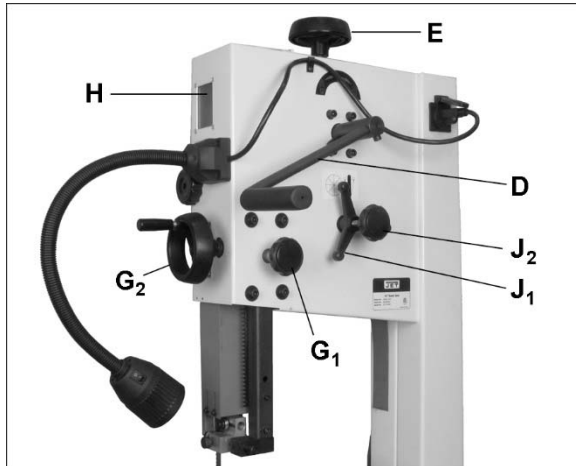

Figure 7-5
4. Raise quick tension lever (see D, Figure 7-5) to release position. If needed, rotate tension handwheel (E, Figure 7-5) for further detensioning.
Refer to Figures 7-5 and 7-6.
1. Lower tension lever (D, Figure 7-5) to tension position.
2. Set proper blade tension by rotating handwheel (E, Figure 7-5), clockwise to tighten, counterclockwise to loosen.
Refer to Figures 7-5 and 7-7.
4. Loosen guide post locking knob (G₁, Figure 7-5) and use handwheel (G₂) to lower guide post until you can see blade through tracking window (H).
7. If blade tends to move toward left or right edge of wheel, loosen locking handle (J₁, Figure 7-5) counterclockwise, and rotate tracking knob (J₂) with your right hand while continuing to rotate wheel with your left. **IMPORTANT:** This adjustment is sensitive; perform in small increments and give blade time to react to changes.
2. Loosen lock knob (G₁, Figure 7-5) and raise or lower guide post using handwheel (G₂, Figure 7-5).